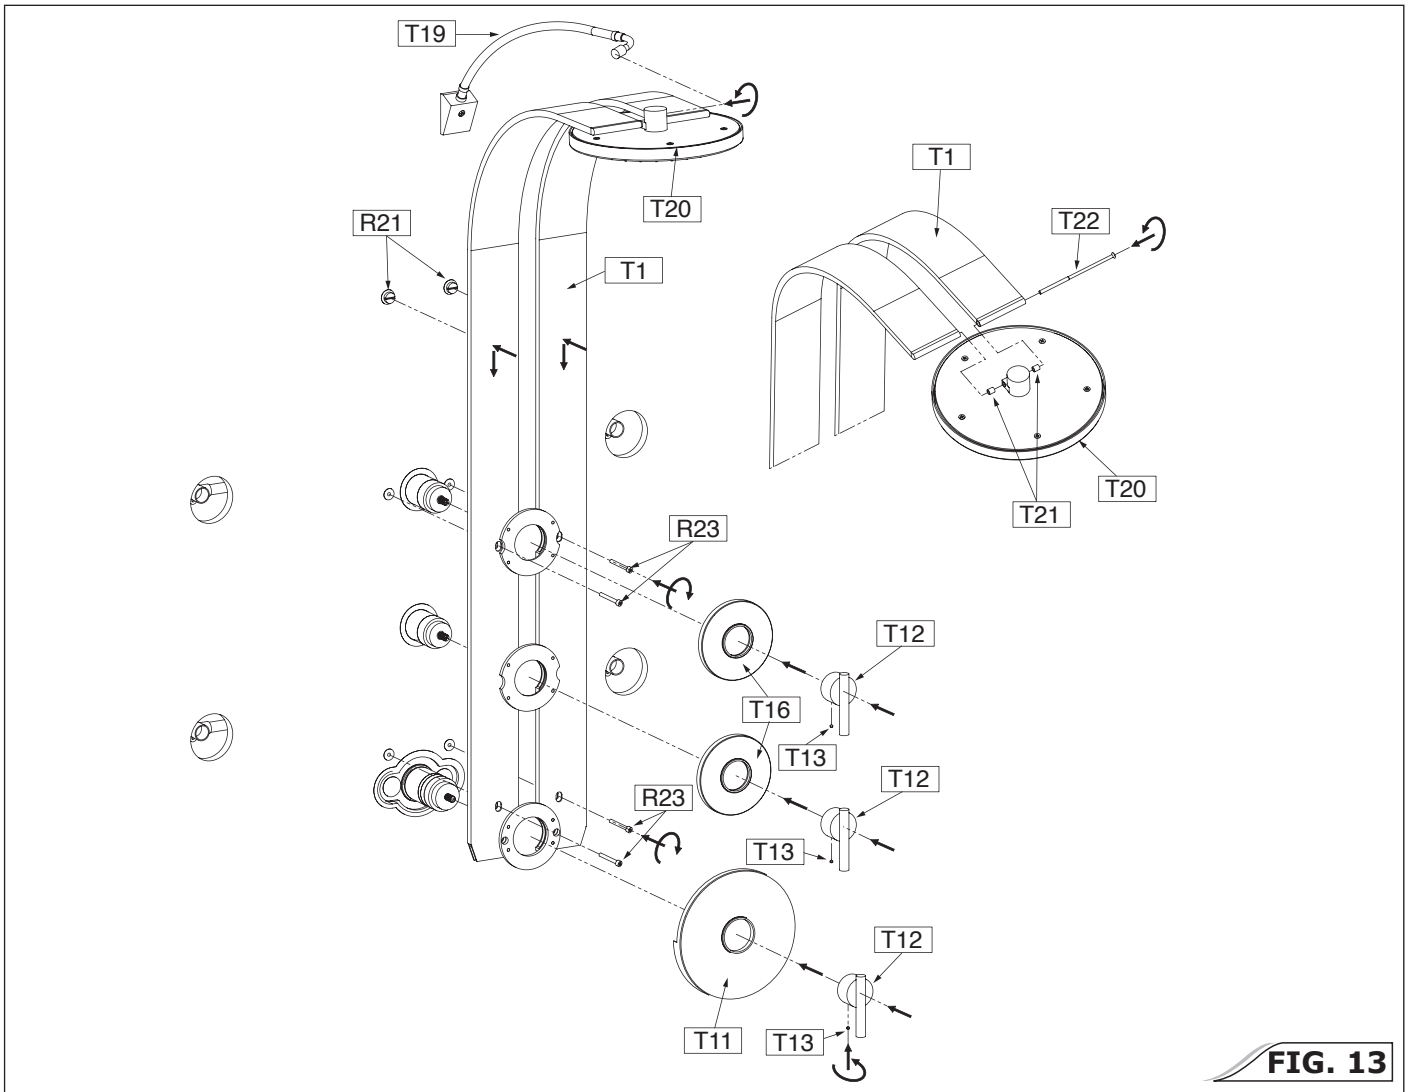

FIG. 13
See fig. 13
- Put the slip bushings (T21) into earlier prepared counter bores in the top part of the skis - refer to detail on the fig. 13. Bend out slightly the top parts of the skis and put the shower head in, so that the hole in top part of the showerhead be aligned with the holes in top part of the skis. Hold the shower head in this position and slide in the holding screw (T22) from the side of the skis until the resistance is felt, then screw in the holding screw using the blade screwdriver.
- Put on the handles as show on fig. 13. In case of stop/volume control valves, position the valve stems in the OFF position. Turn the stem of valves (R6) max. in the clockwise direction. Secure the handles with set screws using hex key included.
Vea fig. 13